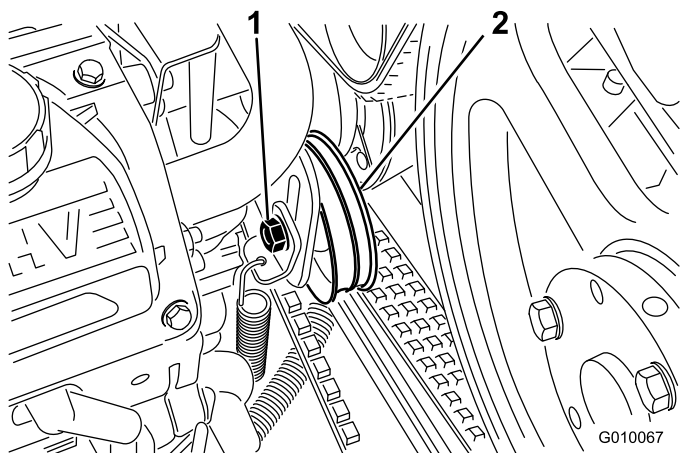

Figure 58
4. Loosen the pump belt idler bolt just enough to allow movement within the adjustment slot (Figure 58).